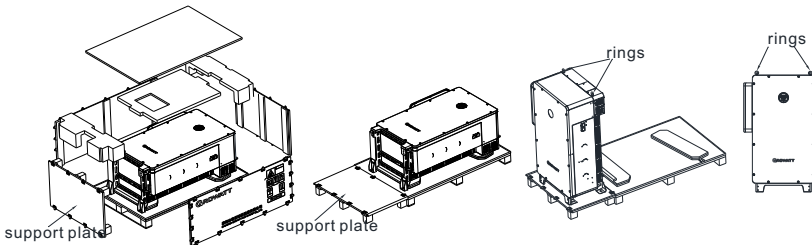

Fig 5.6 Hoisting the WIT Inverter
- 1> As shown in Fig 5.6 below, unpack the WIT Inverter (remove the top panel and the support plates). Then piece the support plates together with the bottom panel. Install the hoisting rings and pull out the handles. Grasp the handles to turn the WIT Inverter upright. Run a rope strong enough to bear the inverter through the hoisting rings and hoist the equipment, and then move the inverter to the installation position;